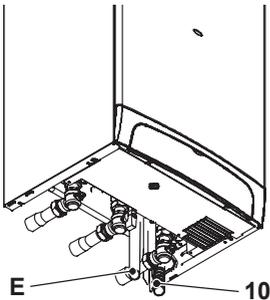

Fig. 6.4
- Connect the pipe E (Fig. 6.4) from the pressure relief valve to the safety discharge pipework.
- Fit the condensate drain 10 (Fig. 6.4) in the air brake connected to the drainage pipework. See also section "Condensate drain" to page 26.